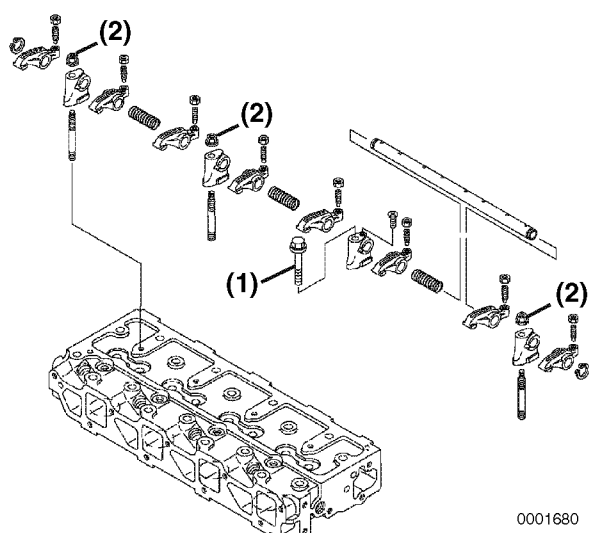

Figure 6-6
1. Remove the bolt (**Figure 6-6, (1)**) and locking nuts (**Figure 6-6, (2)**) that retain the rocker arm support brackets to the cylinder head.